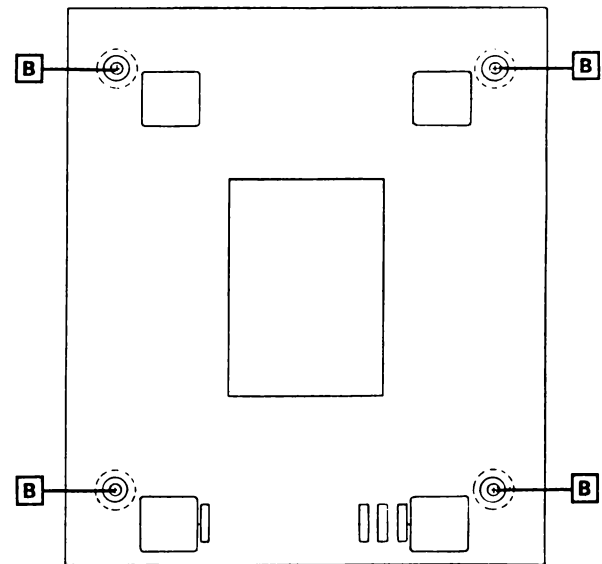

Fig. 3-10. Bottom View
3.4.3 Replace the 4 case screws. See Fig. 3-10.